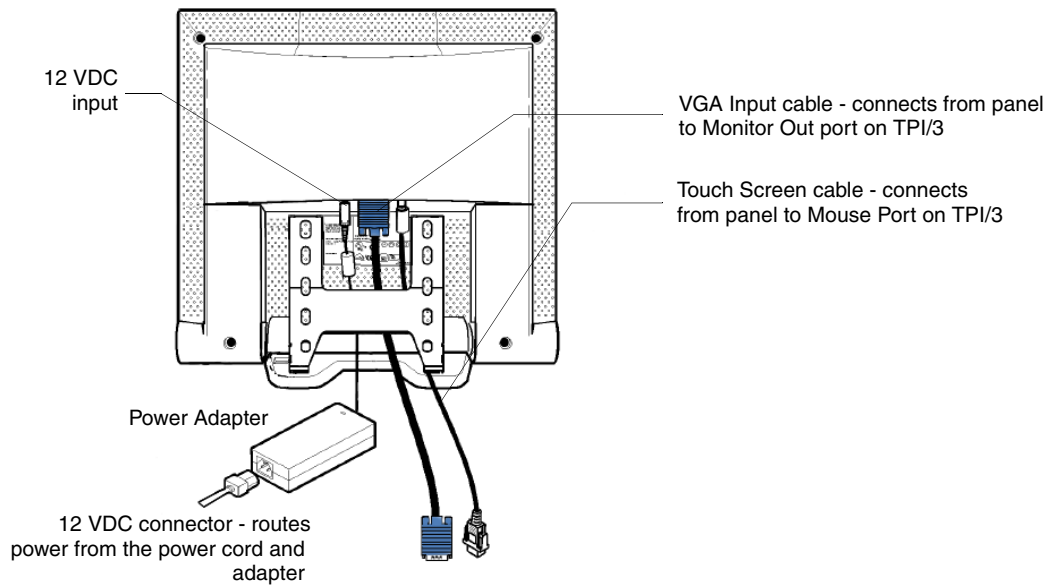

FIG. 11 Attaching the cables to the rear of the VTM-D15/A
1. Connect the VGA Input, Touch Screen Signal, and Power cables to the VTM-D15/A touch panel as shown in FIG. 11.
- Connect the VGA Input, Touch Screen Signal, and Power cables to the VTM-D15/AB touch panel as shown in FIG. 11.